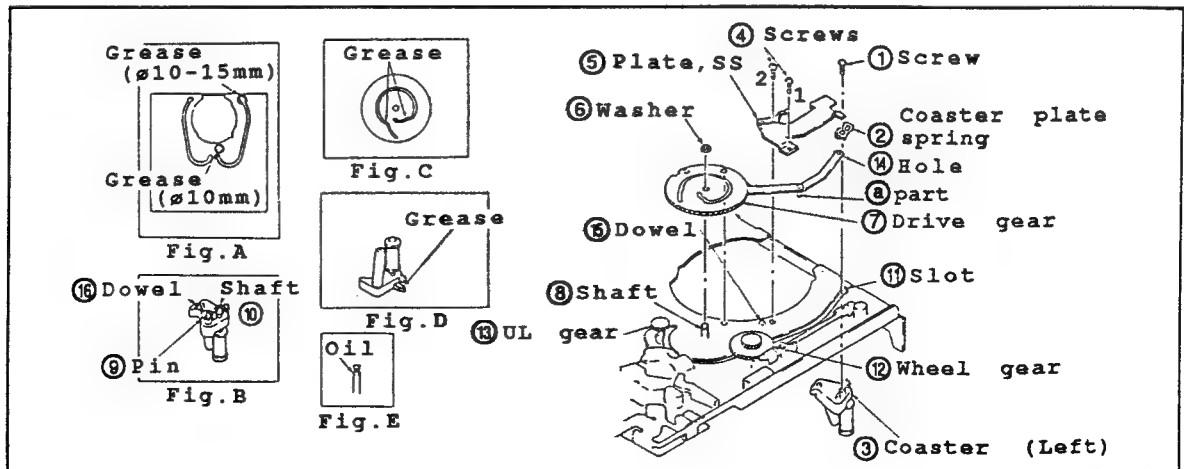

Fig.II-25
• Disassembling (Fig.II-25)
- (1) In the same procedures in "3-3" and "3-12", dismount the capstan motor and the drum unit.
- (2) In the same procedures in "3-13" and "3-14", detach the switch lever, and the loading lever.
- (3) In the same procedures in "3-17", detach the coaster (Right) and the drive gear (Right).
- (4) To take off the coaster plate spring ② and the coaster (left) ③, remove the screw ①.
- (5) To detach the plate SS ⑤, remove the two set screws ④.
- (6) To take off the drive gear (Left) ⑦, remove the washer ⑥ ($\varnothing 1.5$).
• Reassembling (Fig.II-25)
- (1) Apply the grease onto the indicated positions of chassis in the Fig.A.
- (2) Apply the 1/2 drop of oil onto the shaft ⑧. (Fig.E)
- (3) Apply the grease onto the pin ⑨, the shaft ⑩ and the dowel ⑯ of coaster (Left) ③. (Fig.B)
- (4) Assemble the pin ⑨ and the shaft ⑩ aligning the slot ⑪.
- (5) Insert the driver gear (Left) ⑦ into the shaft ⑧ while meshing with the wheel gear ⑫ and the UL gear ⑬.
- (6) Align ⑧ part with the slot ⑪, and the hole ⑭ with the pin ⑨ of coaster (Left) ③.
- (7) Secure it with the washer ⑥ ($\varnothing 1.5$).
- (8) Install the coaster plate spring ② while aligning the shaft ⑩ and the pin ⑨ of coaster (Left) ③. Then, secure it with the screw ①. (Torque: 500g/cm, approx)
- (9) Attach the plate SS ⑤ while aligning with the dowel ⑯. Then, secure it with the two screws ④ in numerical order.
- (10) Apply the grease onto the positions indicated in the Fig.C and D.